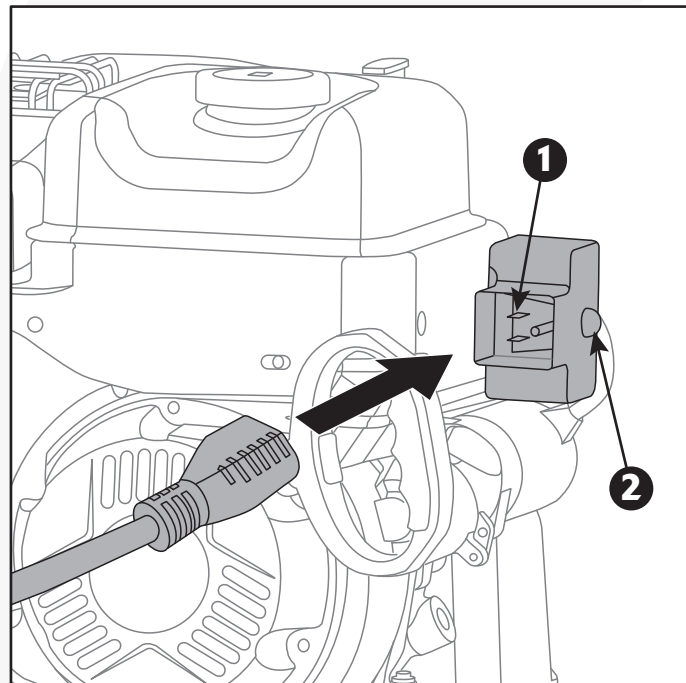

Fig. 11C
A. Connect the extension cord to the power cord receptacle (120V~60Hz) and then into a wall receptacle. (Fig. 11C)
B. Press the electric start button. (Fig. 11C)